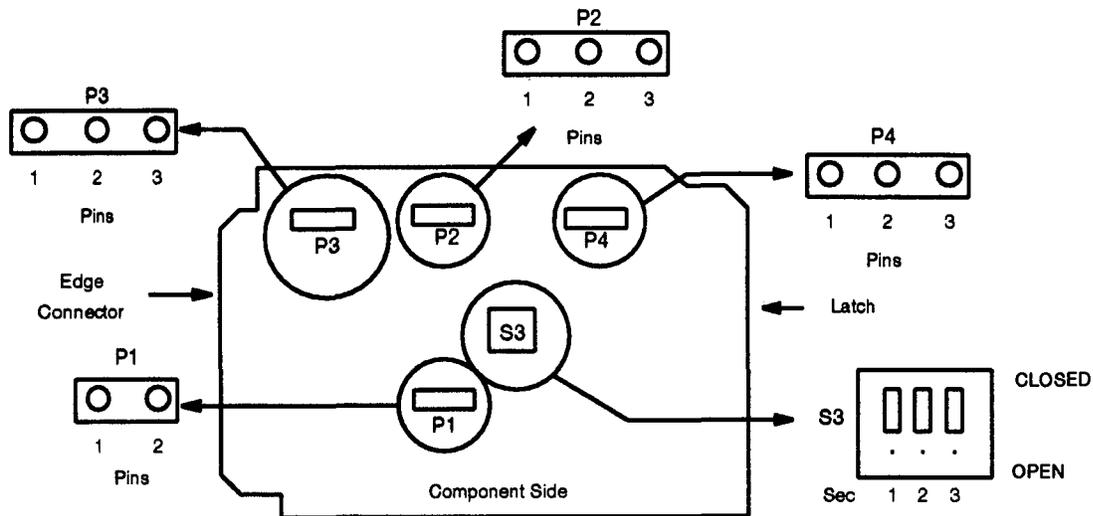

Figure 5. TLM2 (MC90191A1) Option Switches
49. Refer to **Figure 5** and set the address selection switches on the **MC90191A1 TLM2**.
51. Refer to **Figure 5** and set **P2** and **P4** option plugs on the **MC90191A1 TLM2**.
Refer to **Figure 5**. Install jumper between pins 1 and 2 on **P1**. Install jumper between pins 1 and 2 on **P3**.